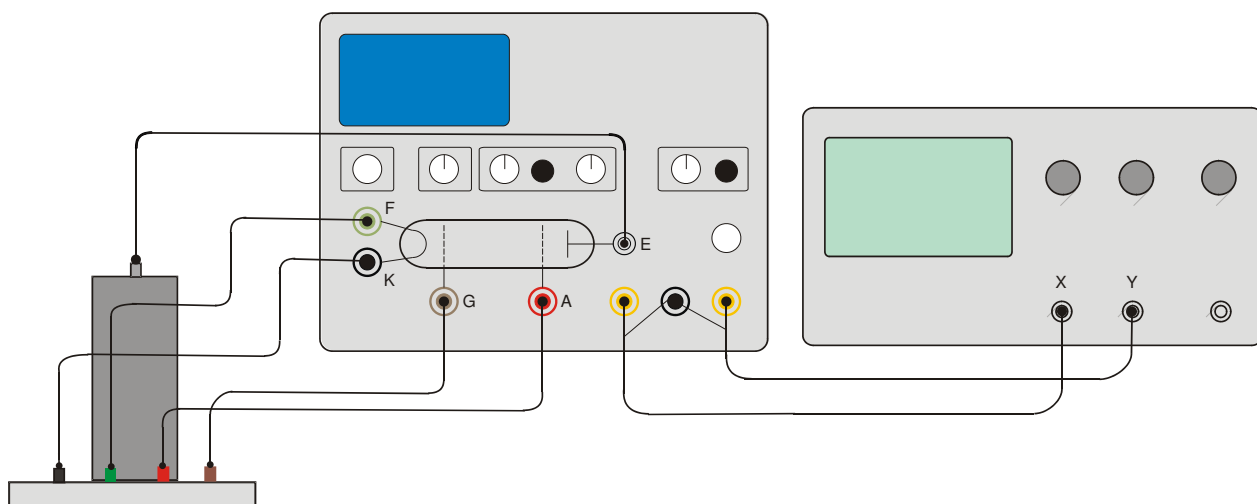

Fig. 2 Experiment set-up - Franck-Hertz tube filled with neon
- Connect up the experiment as shown in Fig. 2.